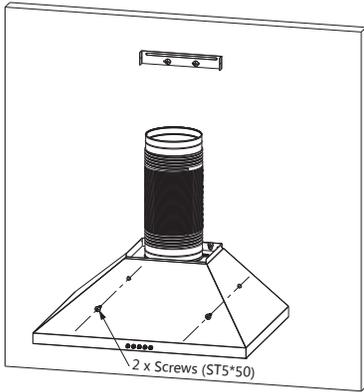

Fig.7
- After connecting the exhaust pipe well, lock screws (ST5\*50) to prevent the range hood from accidentally sliding off the suspension screws. See Fig.7.